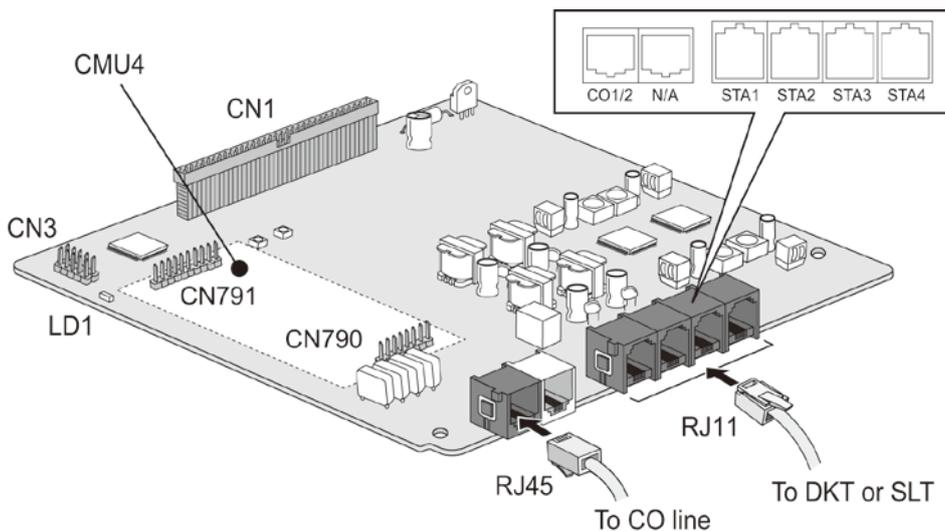

Figure 4.7.1-1 CH204
The CH204 board has two (2) CO line and four (4) Hybrid (DKT & SLT) interface ports. The board may be installed on the CN1 connector of the KSU or EKSU. The MG-CMU4 daughter board may be mounted on the CH204 to provide Call Metering. The CMU4 is mounted on connectors CN790 and CN791 as shown in Figure 4.7.1-1 below.